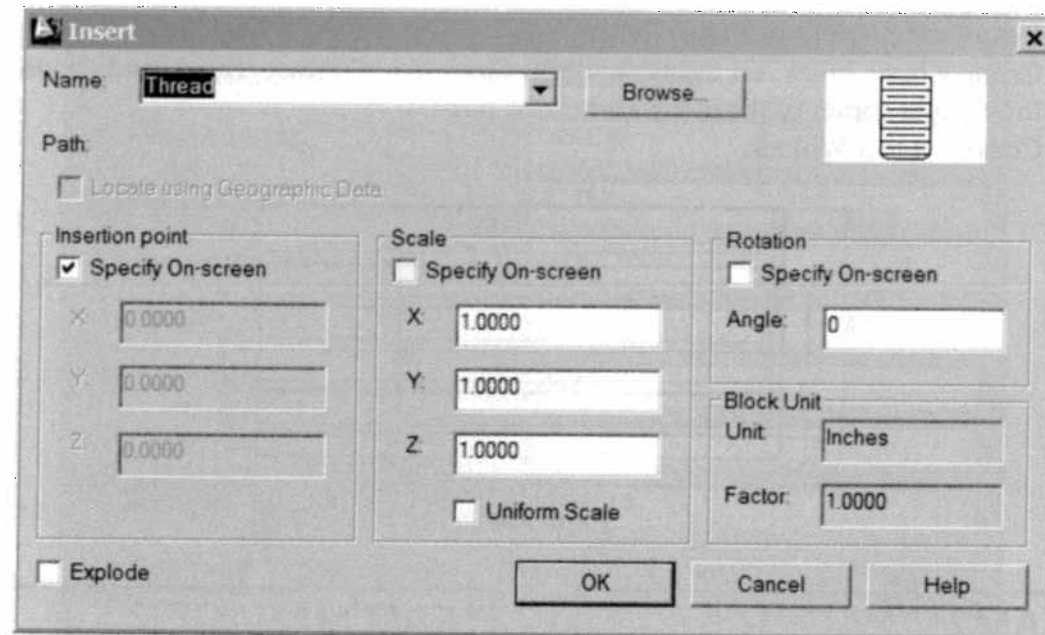

Figure 6-9
- The activation of the command will open the *Insert* dialog box, Figure 6-9.
The main features of the *Insert* dialog box (Figure 6-9) are briefly discussed here.
The default scale factor is 1.00 in *X, Y, and Z* direction and the angle of rotation is zero. In order to insert a block with default values perform the following operation. The default options are shown in Figure 6-9.